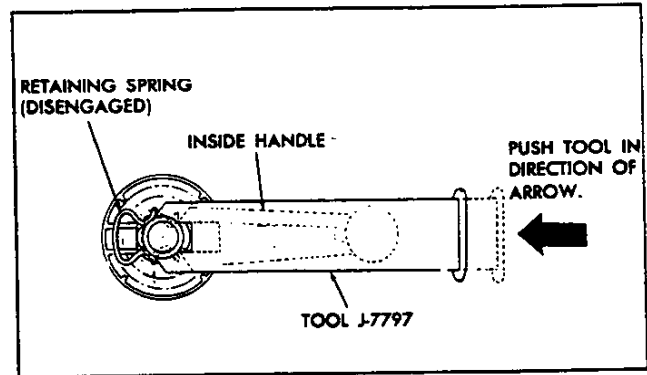

Fig. 20—Removing Window Crank With J-7797
1. Using Tool J-7797, remove clips retaining window crank and lock control as shown in Figure 20.